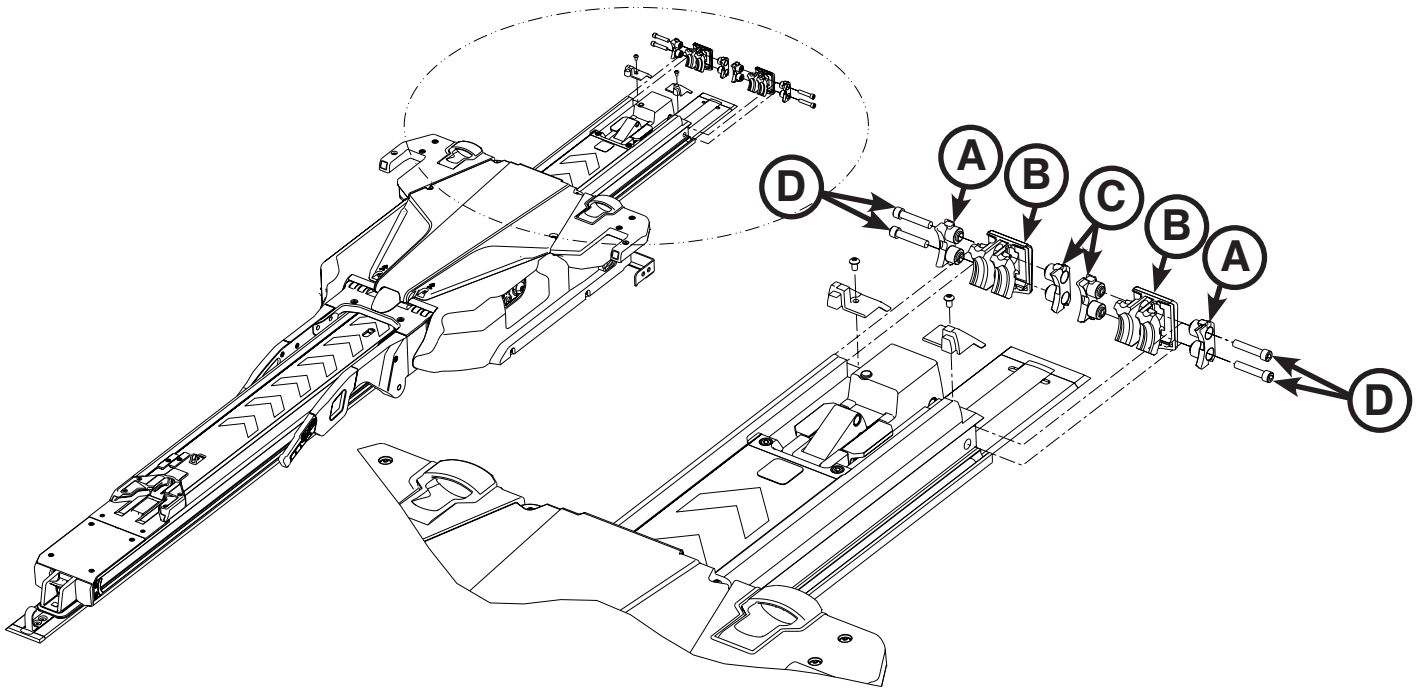

Figure 23: Assemble Bumper Block
14. Assemble the bumper block by aligning the supplied dead stop block (6390-001-244) (with through holes) (A) with the supplied dead stop bumper (6390-001-243) (B) and the supplied inner dead stop block (6390-001-246) (with threaded holes) (C) as shown in Figure 23.
17. Using a 3/16" hex wrench, install the four supplied socket head cap screws (0004-662-000) (two for each side) (D) into the transfer assembly as shown in Figure 23.